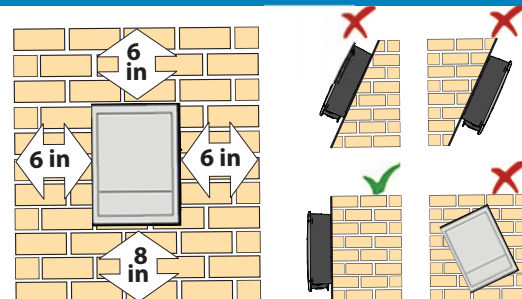

Figure 1
- Install vertically with a maximum incline of +/- 5° (see Figure 1).
- Maintain minimum clearance measurements shown (see Figure 1).